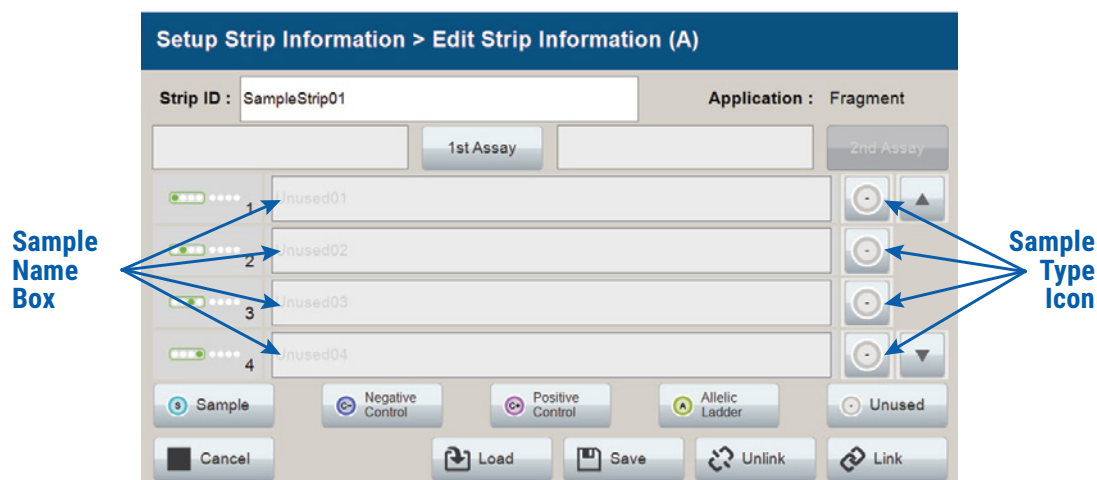

Figure 13. Sample Type and Sample Name on 'Edit Strip Information' screen.
4. Select a sample type on the 'Edit Strip Information' screen (Figure 13). Sample types must be selected for each well position before the Sample Name box becomes active for entry of sample name. Sample types are as follows.
5. To assign a sample type to a well, select the appropriate sample type along the bottom of the 'Edit Strip Information' screen (Figure 13), then select the **Sample Type** icon to the right of the sample name field for the desired well. This icon will then display the sample type selected for that well (Figure 14).